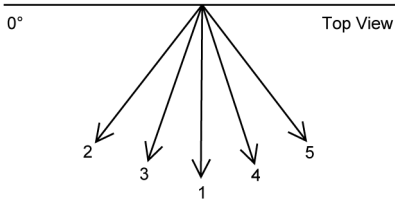

Figure 2
- Manual vertical airflow direction can be set using remote control; the angles of the vane are as stated above and the positions of the vane are as Figure 2 below. When the air conditioner is stopped using remote control, the vane will shift to close position.
- Manual horizontal airflow direction can be set using remote control; the angles of the vane are as stated below and the positions of the vane are as Figure 2 above.